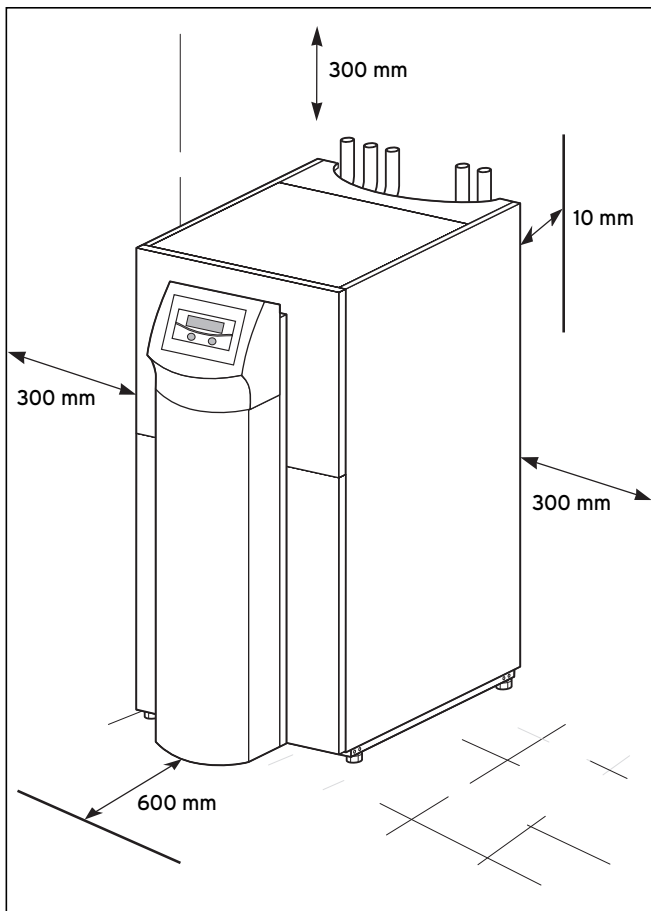

Fig. 4.2 Minimum clearances for installing the heat pump
- Pay attention to the minimum wall clearances when installing the heat pump (see Fig. 4.2).